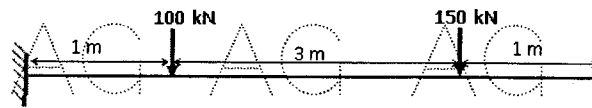

Figure: 1
b) Determine the fixed end moments of a fixed beam subjected to the loads as shown in figure 1. [3]